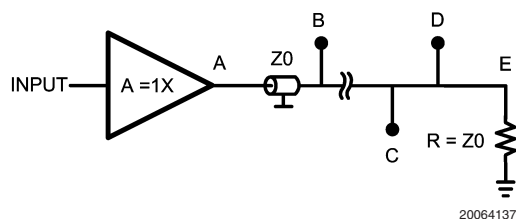

FIGURE 2.
- Use one buffer to drive to multiple points on one transmission line (see Figure 2)
Another transmission line possibility is to route the trace via several points along a transmission line (*Figure 2*). This is only possible if care is taken to observe certain restrictions. Failure to do so will result in impedance discontinuities that will cause distortion of the signal. In the configuration of *Figure 2* there is a transmission line connected to the buffer output and the end of the line is terminated with Z_0 . We have seen in the section 'Connecting a load using a transmission line' that for the condition above, the signal throughout the entire transmission line has the same value, that the value is the nominal value initiated by the opamp output, and no reflections occur at the end point. Because of the lack of reflections no interferences will occur. Consequently the signal has every where on the line the same amplitude. This allows the possibility of feeding this signal to the input port of any device which has high ohmic impedance and low input capacitance. In doing so keep in mind that the transient arrives at different times at the connected points in the transmission line. The speed of light in vacuum, which is about 3×10^8 m/sec, reduces through a transmission line or a cable down to a value of about 2×10^8 m/sec. The distance the signal will travel in 1ns is calculated by solving the following formula: